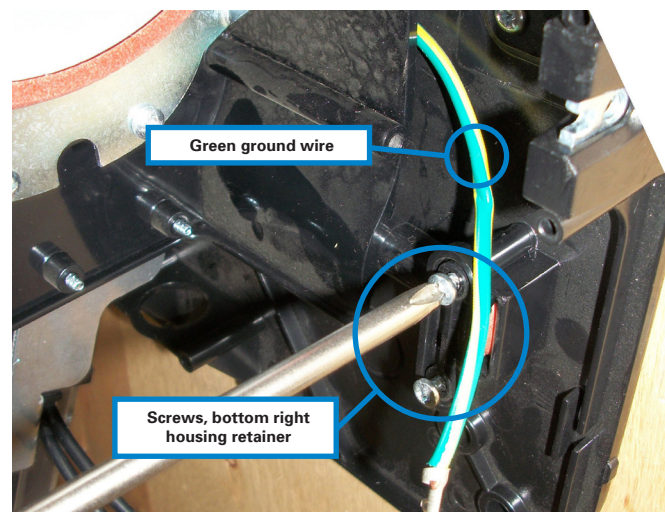

Figure 3-4
Step 3-4. Remove the **two (2)** screws holding the bottom right housing retainer. (Figure 3-4)